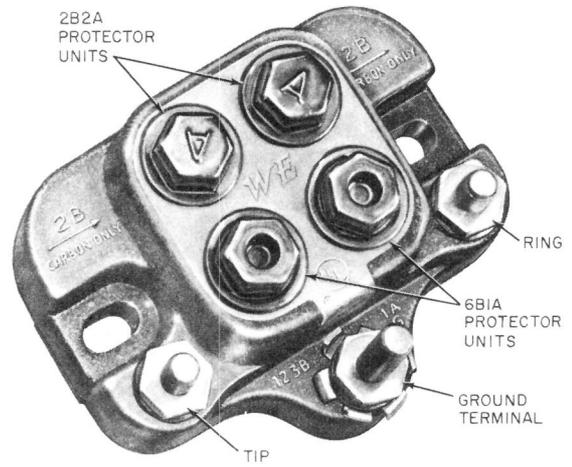

Fig. 3—123B1A Protector
3.04 The 123B1A protector (Fig. 3) provides protection for one pair of wires and is recommended for use where lightning activity makes